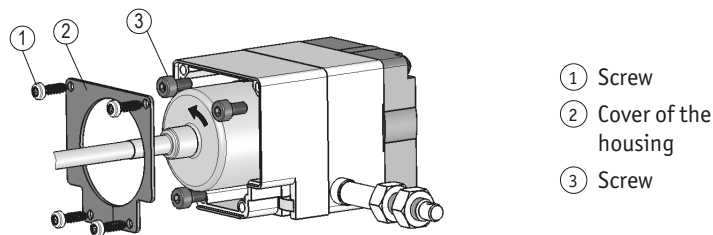

Fig. 9: Incremental encoder adjustment
2. Turn potentiometer Pe (3) until an output voltage 10 mA is measured.
5.4 Incremental encoder adjustment (Fig. 9)